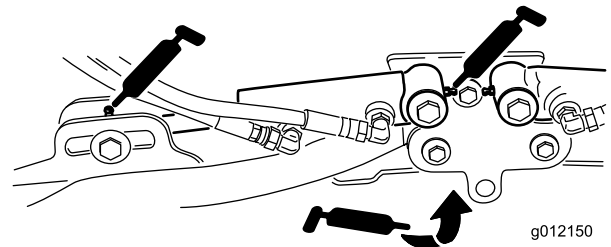

Figure 43
- Cutting unit lift arm cylinders (2 each) (Figure 43)
- Lift arm pivots (1 each) (Figure 43)